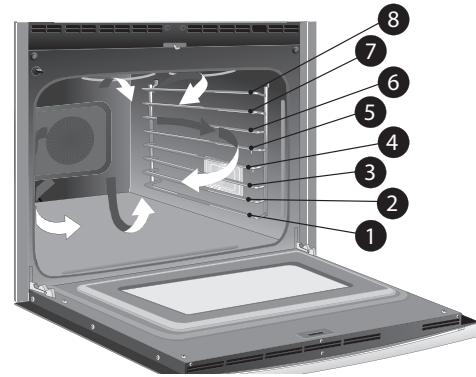
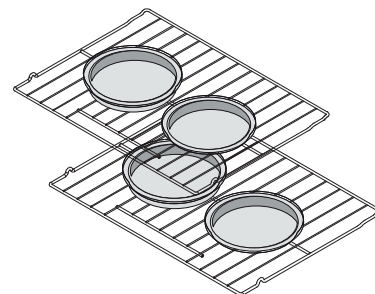

Figure 23: Air movement using convection
Figure 24: Baking on multiple levels in Convection Bake
- When using two oven racks, place in positions 2 and 7 (Figure 23) and place bakeware as shown in Figure 24.